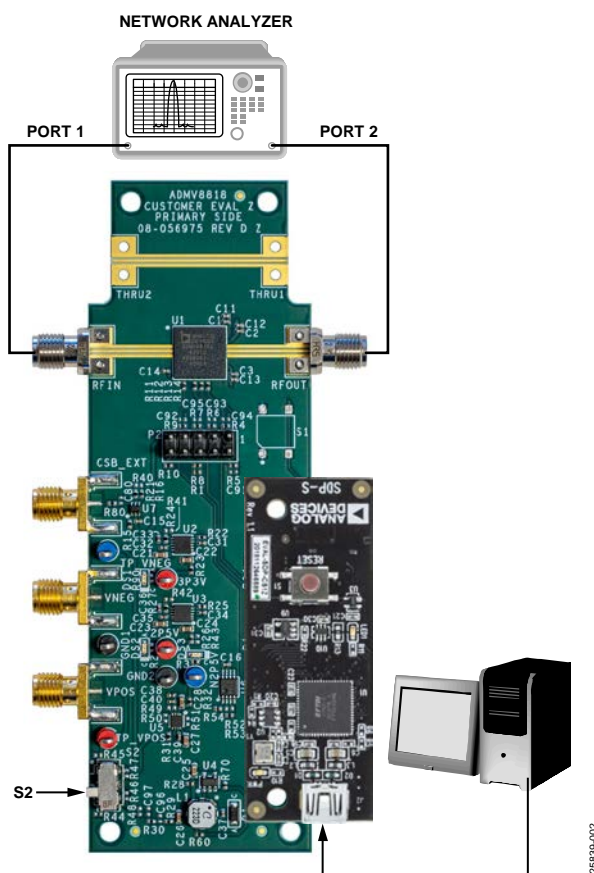

Figure 2. Lab Bench Setup
To power the ADMV8818-EVALZ using the 5 V USB supply, slide the S2 switch downward (as shown in Figure 2) to power the on-board negative voltage generator and LDO regulators. Alternatively, the ADMV8818-EVALZ can be powered externally by sliding the S2 switch upward and then connecting power supplies to the VPOS and VNEG Subminiature Version A (SMA) ports or test points. The applicable voltage range for the positive input VPOS is between 3.5 V and 5.5 V, and the applicable voltage range for the negative input VNEG is between  $-5.5$  V and  $-2.7$  V.
Figure 2 shows an example lab bench setup for the ADMV8818-EVALZ. To observe the filter response from the ADMV8818-EVALZ, connect the RF input (RFIN) and RF output (RFOUT) ports to a network analyzer (or a similar instrument). Typically, RFIN and RFOUT are connected to Port 1 and Port 2 on the network analyzer, as shown in Figure 2.
1. Connect the RFIN and RFOUT ports to a network analyzer (or a similar instrument). Typically, RFIN and RFOUT are connected to Port 1 and Port 2 on the network analyzer, as shown in Figure 2.
3. On the ADMV8818-EVALZ, slide the S2 switch downward (as shown in Figure 2) to power the ADMV8818-EVALZ from the 5 V USB supply voltage from the PC via the SDP-S.